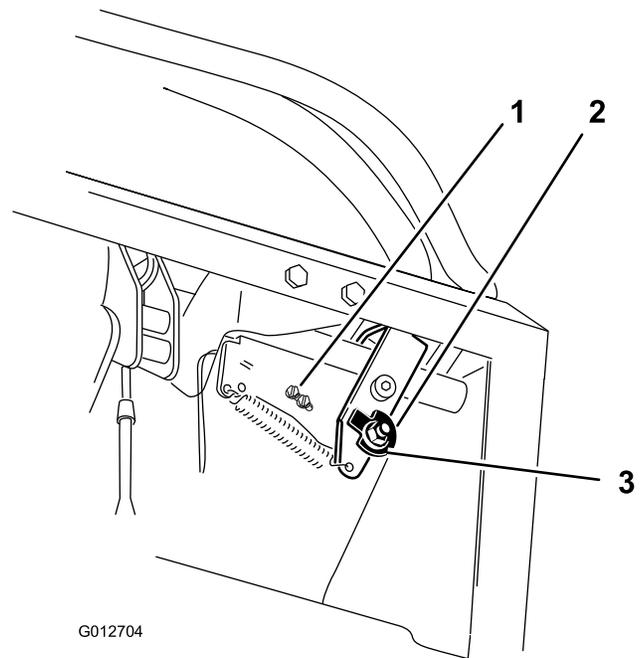
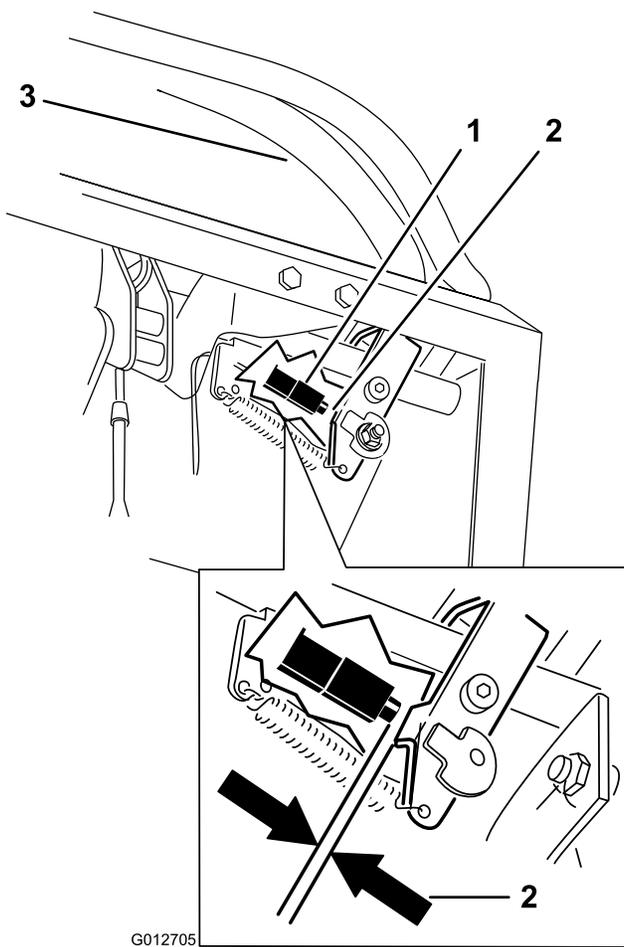

Figure 67
Figure 68
7. Loosen the nut holding the cam (Figure 67).
10. Check the gap between the control lever and switch as shown in Figure 68. The gap needs to be an 1/8 inch (3mm) with the right motion control lever in the neutral, unlocked position.
11. If needed, loosen the screws holding the switch and adjust the switch (Figure 67 and Figure 68).